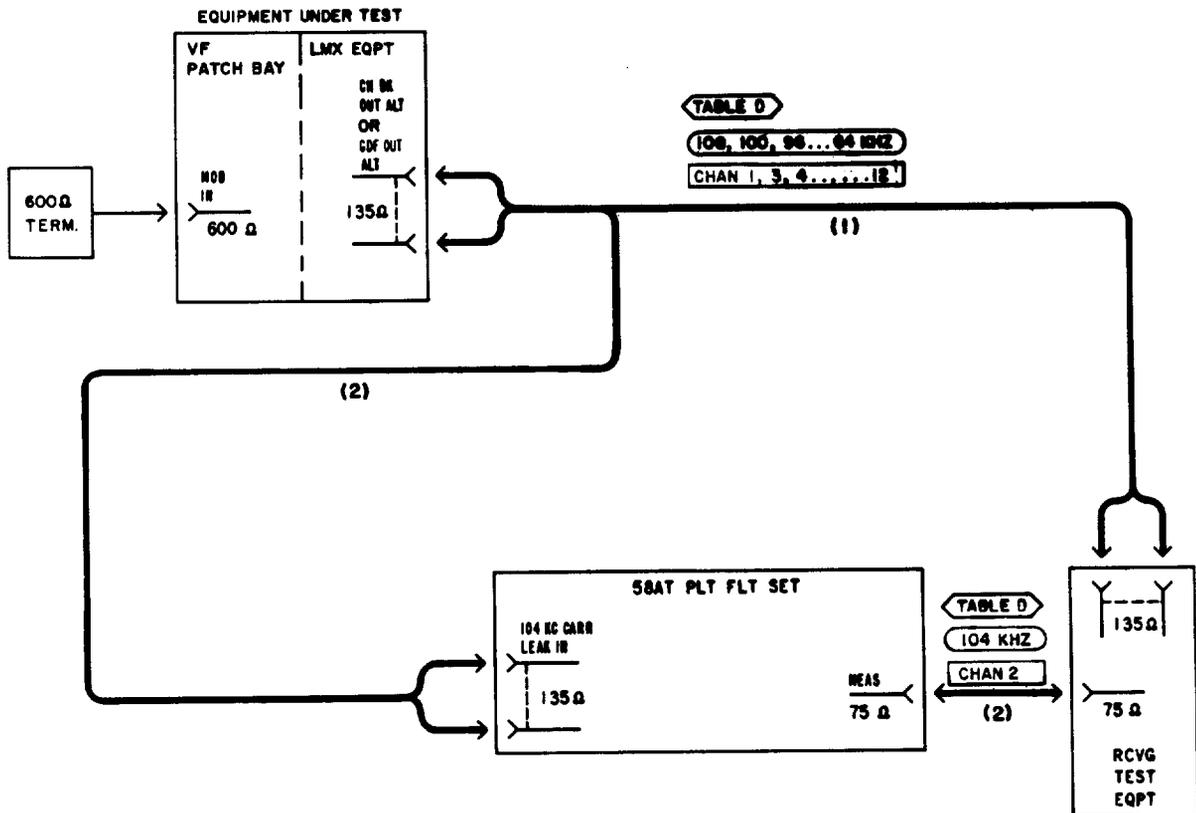

Fig. 3—Patching Diagram—Carrier Leak Test
- 2 Insert a 262B plug in the MOD IN jack for the channel under test (Fig. 3).
- 3 At the LMX equipment, connect the RTE to the CH BK OUT ALT (LMX-2) or GDF OUT ALT (LMX-3) jack [patch (1), Fig. 3].
| 8 | At the LMX equipment, remove patch (1), Fig. 3. |
| 9 | At the LMX equipment, connect the RTE, via the 104 KC CARR LEAK IN/MEAS jacks on the 58AT pilot filter set, to the CH BK OUT ALT or GDF OUT ALT jack [patch (2), Fig. 3]. |
| 11 | At the LMX equipment, remove patch (2), Fig. 3. |